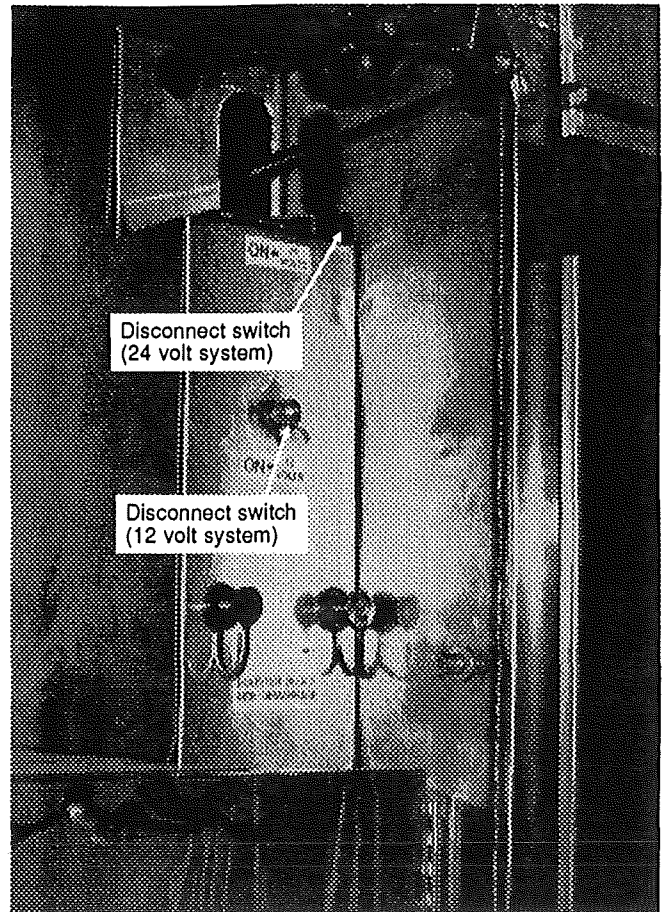

FIG. 9
The main junction box is located inside the second baggage compartment on the right side of vehicle, over the A/C compressor compartment (see fig. 9). Open baggage compartment door, unscrew the 1/4 turn screws (4), and remove panel to gain access to the following box components: